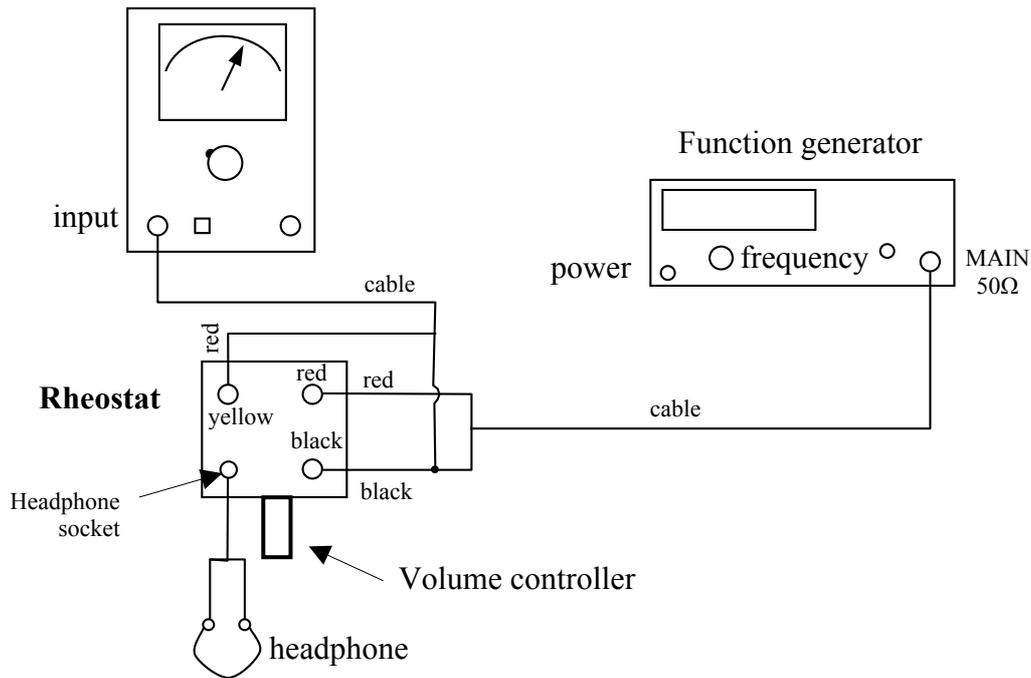

Figure 4.2. The connection scheme.
1. Connect the experimental apparatus as showed in Figure 4.2.